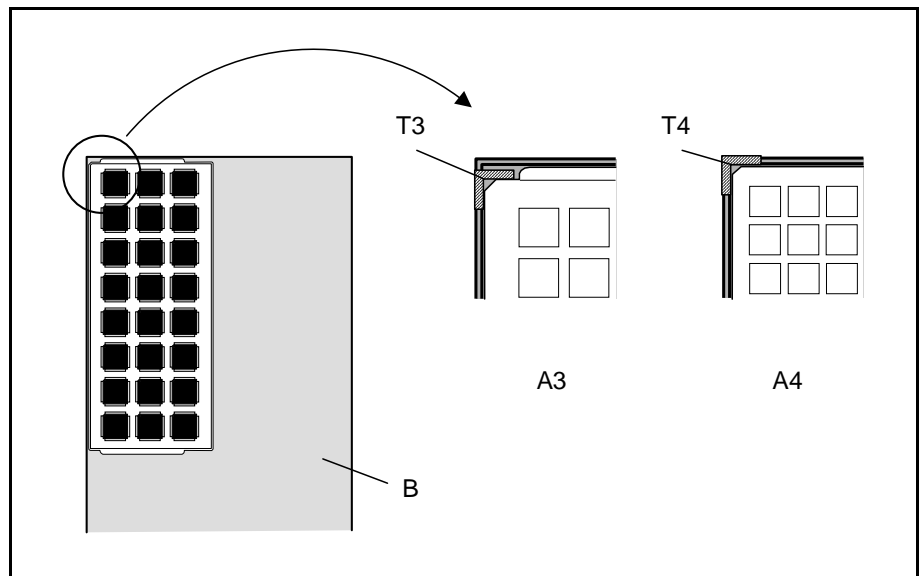

Figure 7-19. Different matrix tray outlines and tray positions.
Figure 7-19 shows an example where a Tray Wagon Magazine (B) with a matrix tray (A3) requiring a tray position (T3) and a matrix tray (A4) requiring a different tray position (T4).